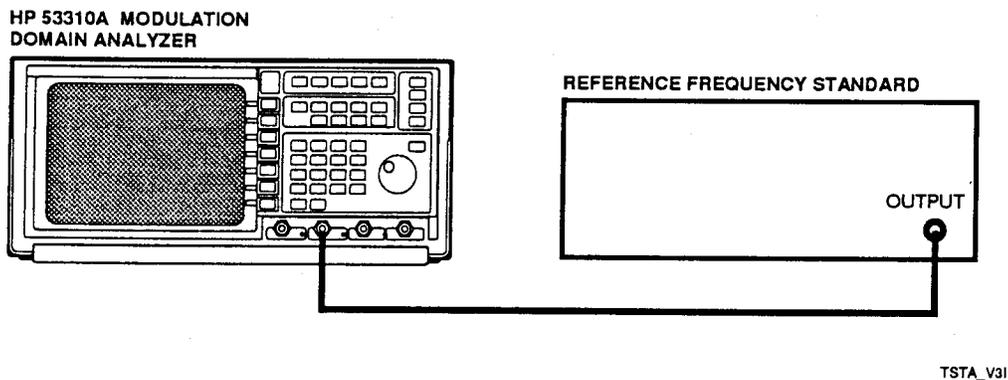

Figure 3-3. Timebase Adjustment Setup
- 1 Connect a house standard (10 MHz reference frequency) to the HP 53310A Channel A input shown in *Figure 3-3*.
- 1 Connect the HP 53310A as shown in *Figure 3-3*.